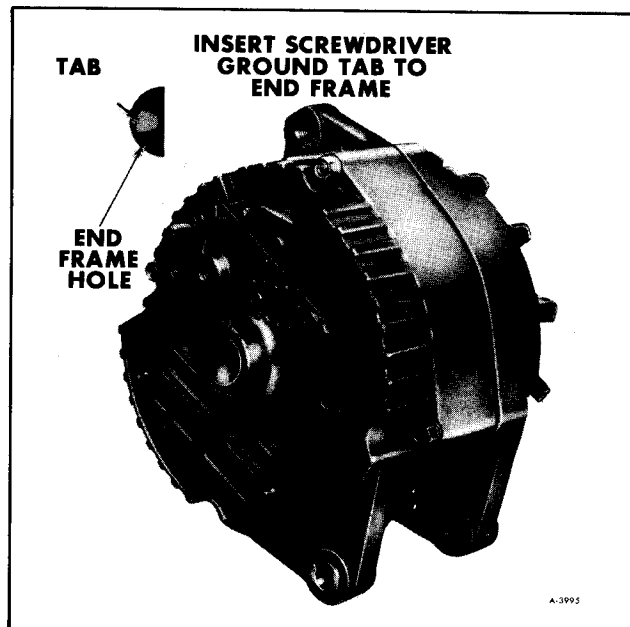

Figure 25—End View of Generator (Typical)
- g. If ampere output is not within 10 amperes of rated output, determine if test hole (figure 25) is accessible.
h. Ground the field winding by inserting a screwdriver into the test hole (figure 25). **CAUTION:** Tab is within 3/4 inch of casting surface. Do not force screwdriver deeper than one inch into end frame.
7. If output is not within 10 amperes of rated output, keep battery loaded with carbon pile, and ground generator field (figure 25).